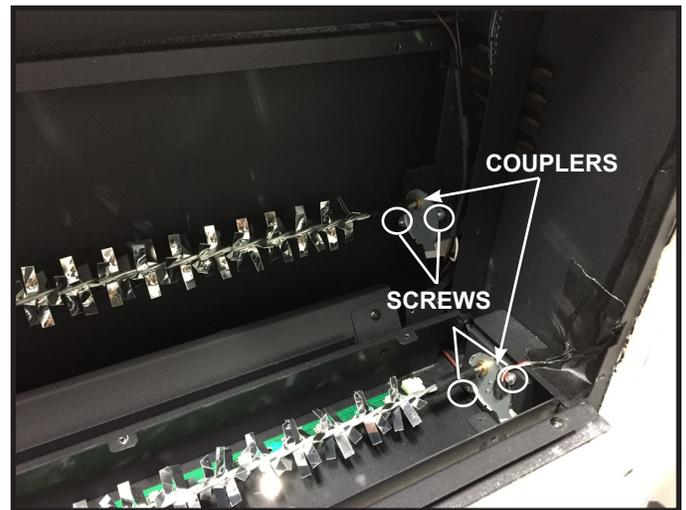

Figure 18
6. Disengage rotisserie rods from motors located in right side of cavity. Use hand to shift the rotisserie rod to the left until the rubber coupler on the right end disengages from the motor shaft and lift out of appliance. See Figure 18.
7. Remove two screws that attach each motor to the motor brackets. See Figure 18.